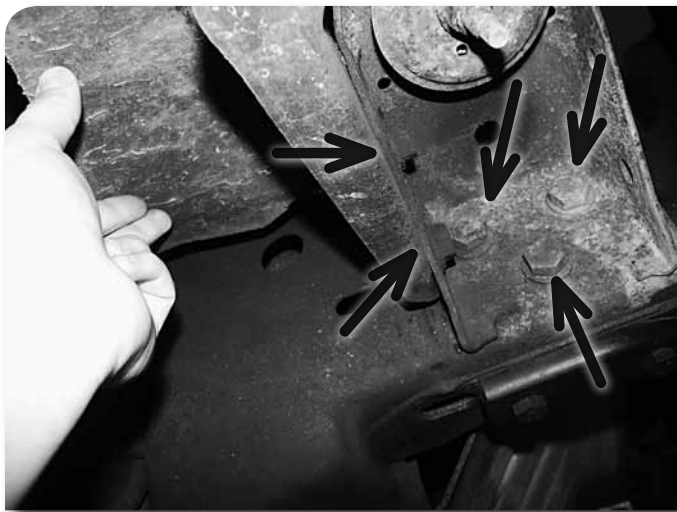

Figure 5
10. Remove the six (three per side) bumper mounting bolts attaching the bumper to the frame and separate the bumper from the vehicle **Figure 5**. Save hardware.
11. Remove the two bolts that mount the inside bumper brackets to the bumper and remove the brackets from the bumper. **Figure 5** Save any factory bracket-to-frame shims that may be installed. Save hardware and discard the brackets.